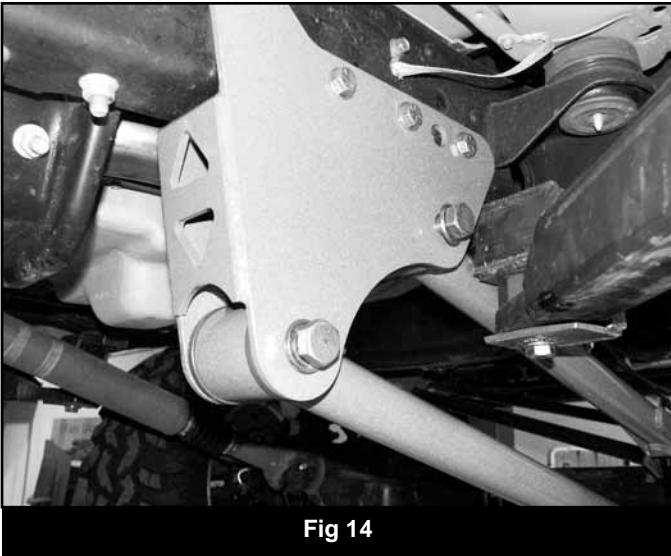

Fig 14
33. Install the assembled upper control arm in the new frame bracket and fasten with a $\frac{3}{4}$ " x 5-1/2" bolt, nut and $\frac{3}{4}$ " SAE flat washers from bolt pack #432. The two tabs on the control arm go up. Leave hardware loose. (Fig. 14)